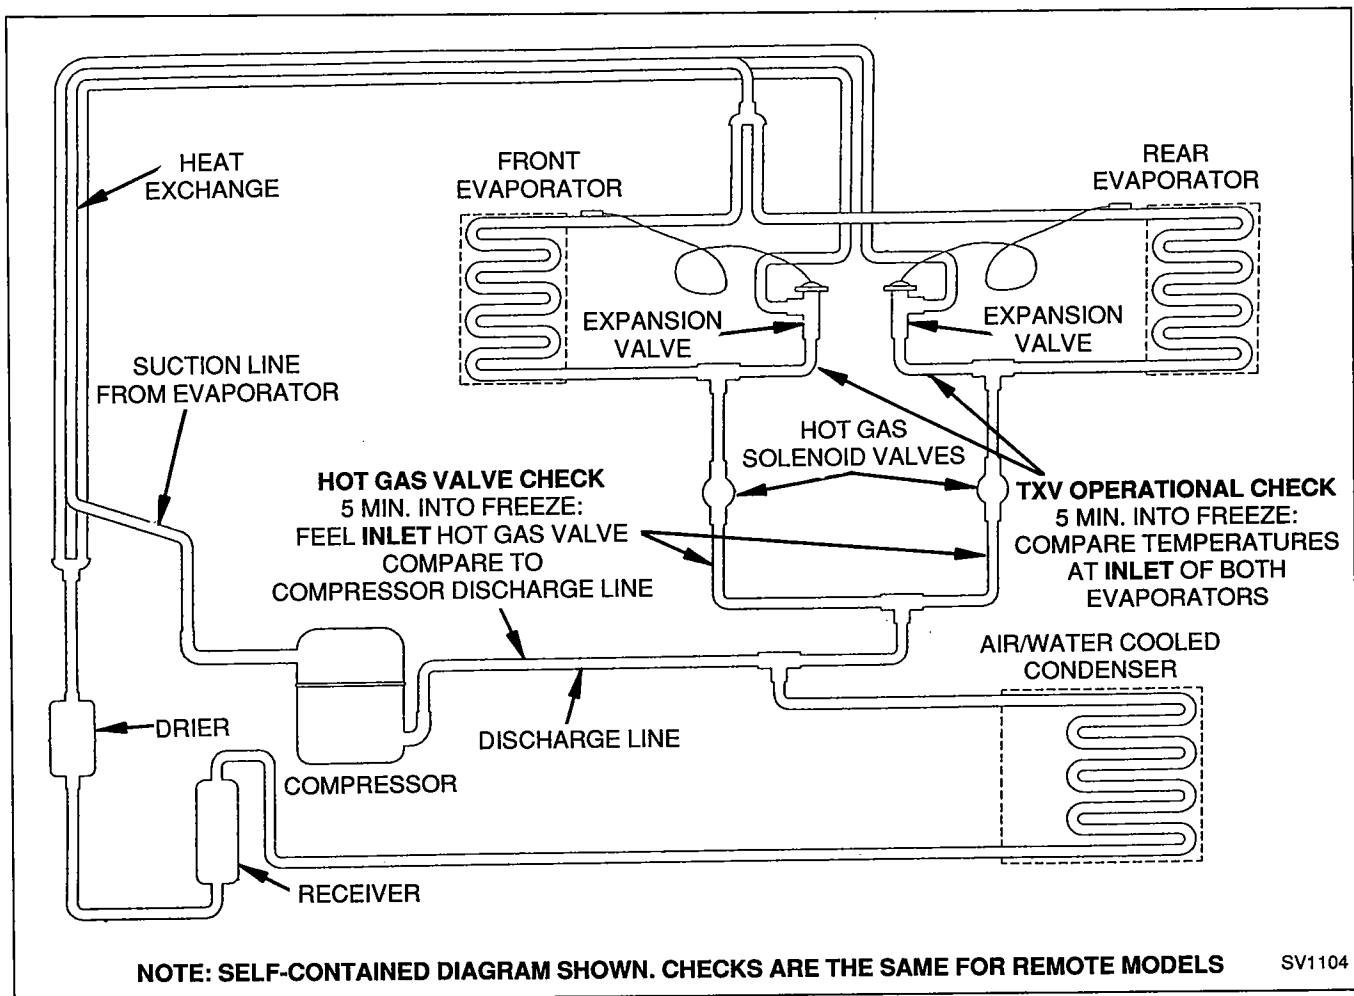

FIGURE 64. HOT GAS VALVE INLET FEEL CHECK/TXV OPERATIONAL CHECK
- b. Check procedures (Figure 64, page 68).
4. TXV operational check (Figure 64, page 68) is used to determine how the TXV's are functioning. As temperature readings must be accurate, a thermocouple type of temperature meter is recommended.